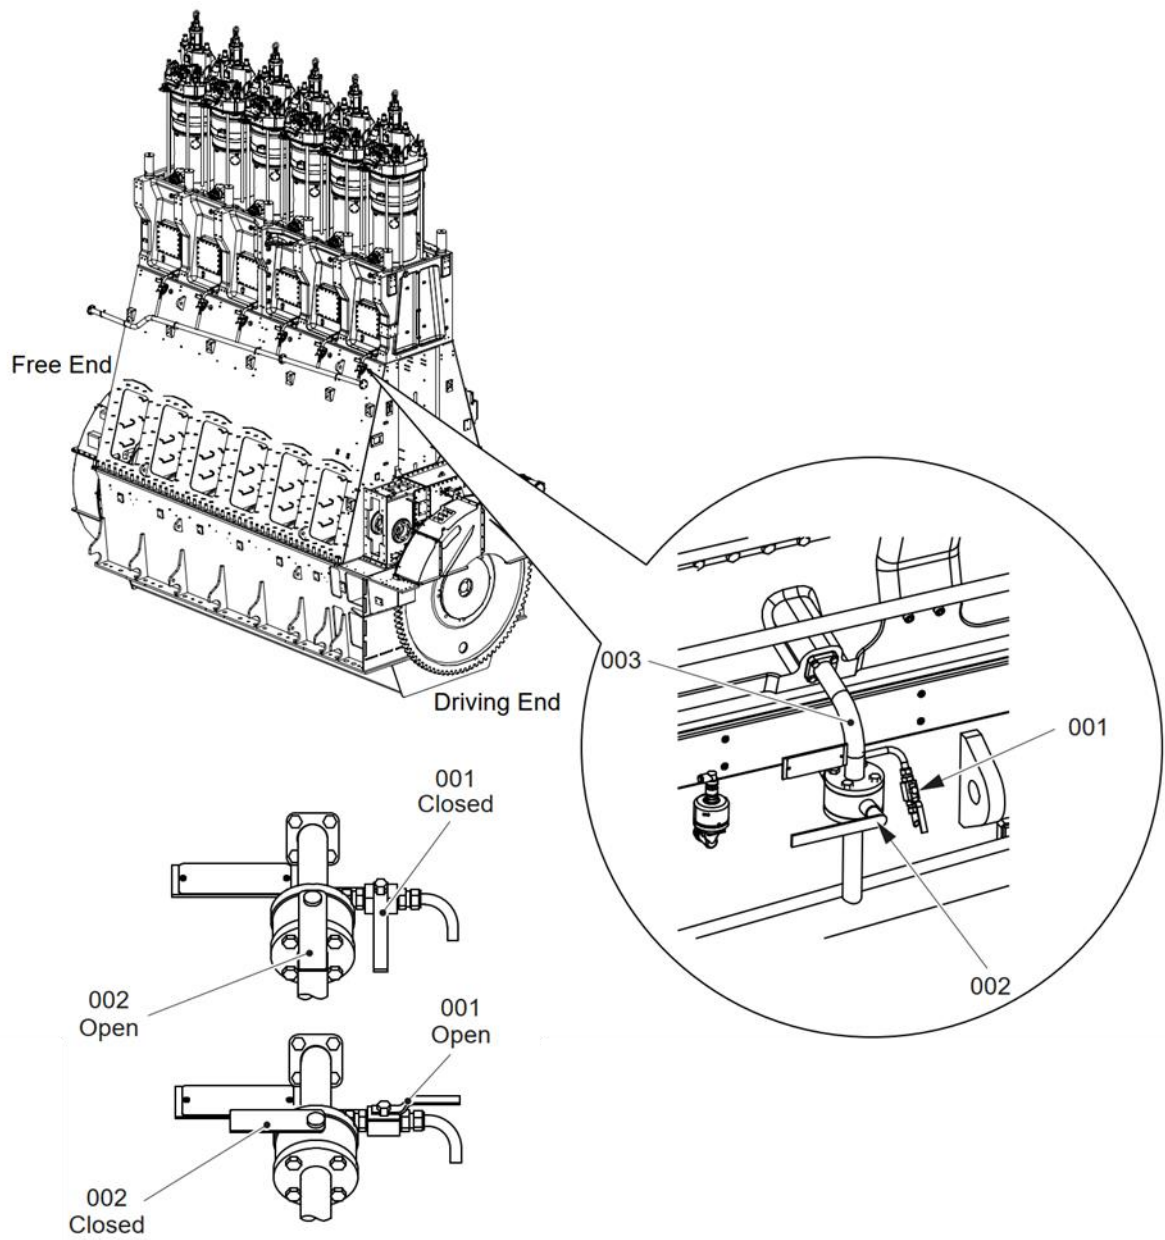

Figure 2 Location of ball valves (for used oil samples)
- 1.1. Close the ball valve (002, Figure 2) until enough oil is accumulated in the pipe. This typically takes 30 to 60 minutes and is strongly dependent on engine load and feed rate.